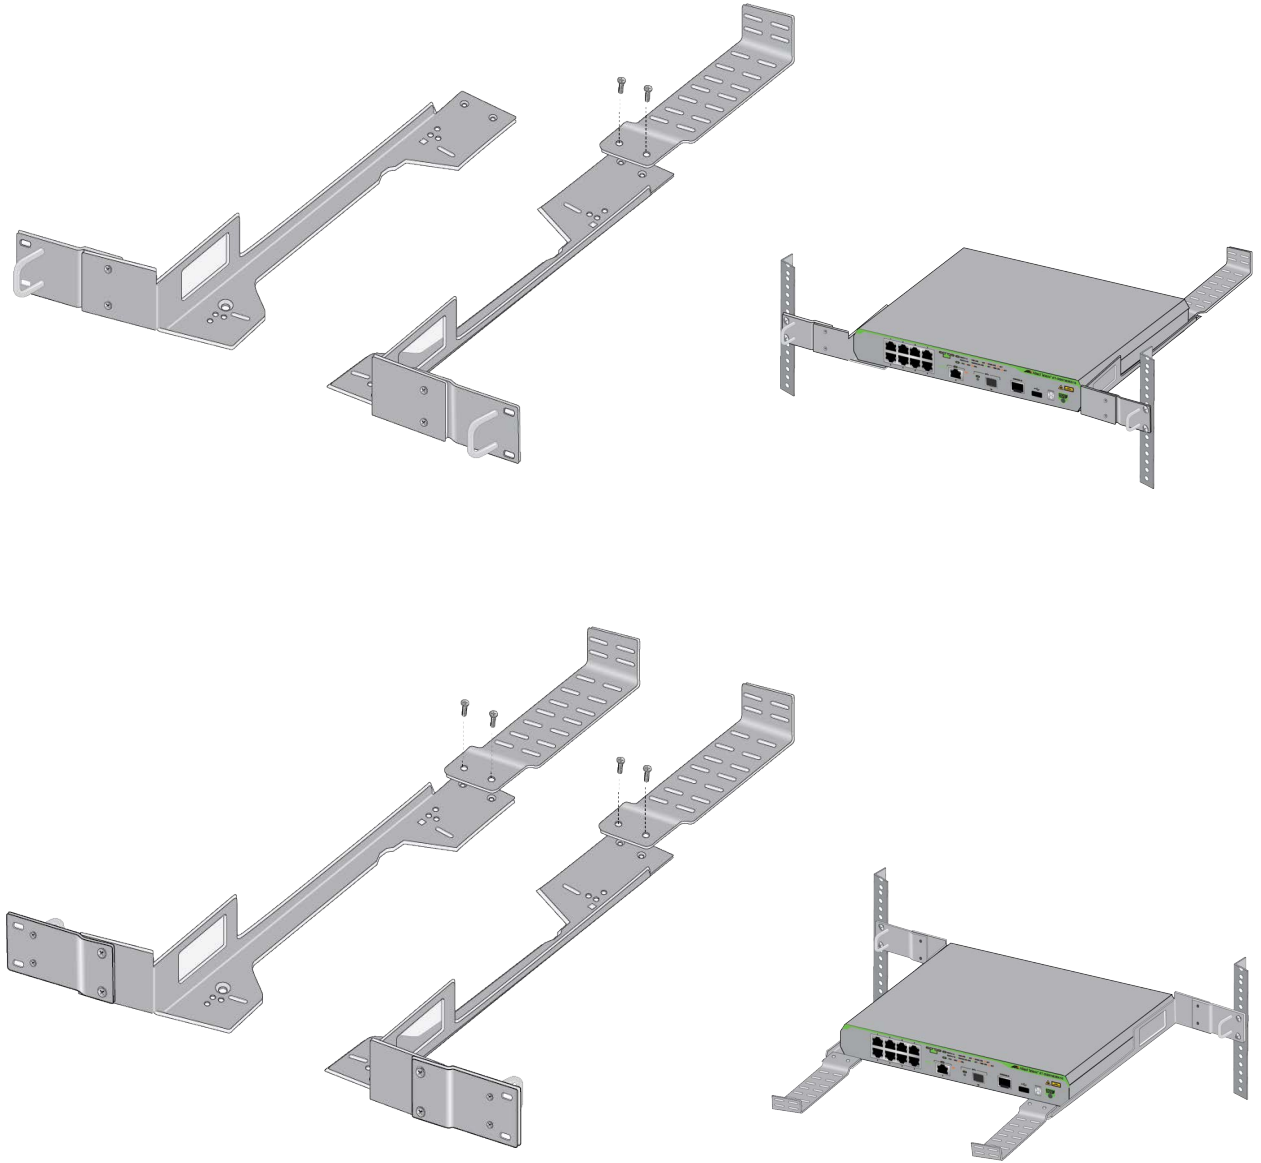

Figure 32. Attaching the RKMT-J05 Cord Trays to the Long Brackets
5. Attach one or both cord trays to the long brackets. The cord trays are optional. Refer to Figure 32.